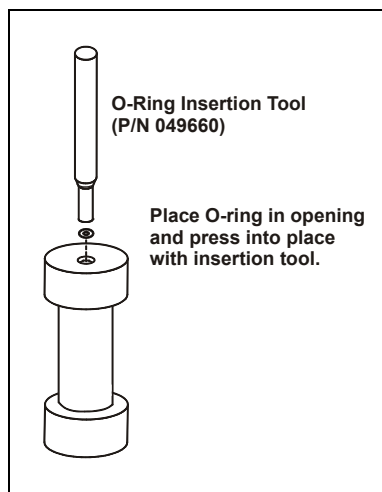

Figure 3-8. Installing a Cell End Cap O-Ring
- If an O-ring is *missing*, place a new O-ring over the opening in the end of the cell end cap. Press the O-ring into place, using the O-ring insertion tool (see Figure 3-8). For information about ordering O-rings, refer to Appendix D.
- Place a new O-ring over the opening in the end of the cell end cap. Press the O-ring into place using the O-ring insertion tool (see Figure 3-8).